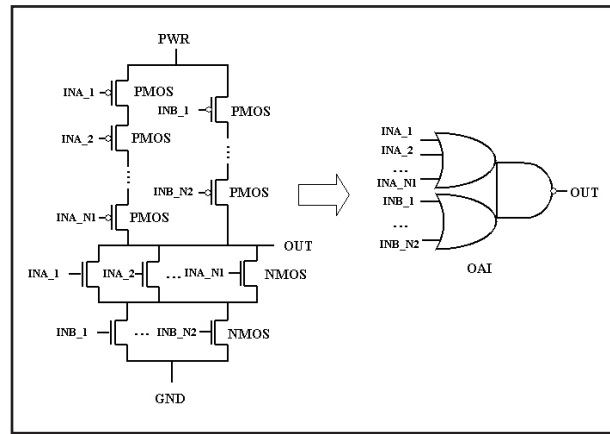

Figure 7. OAI\_N1\_N2
- **OAI\_N1...\_NK** — CMOS OR-AND-Invert logical configuration represented by K OR elements with N1, N2, ..., NK inputs in each, accordingly, and AND-Invert block (Figure 7)
The input terminals inside each OR configuration of OAI gate are swappable. For example, in Figure 7 the inputs INA\_1, INA\_2, ..., INA\_N1 are swappable, and the inputs INB\_1, ..., INB\_N2 can be swapped. Also the groups of NMOS transistors connected in parallel are interchangeable. So the parallel transistors connected to INB\_1, ..., INB\_N2 nets can be placed above the group of transistors connected to INA\_1, INA\_2, ..., INA\_N1.